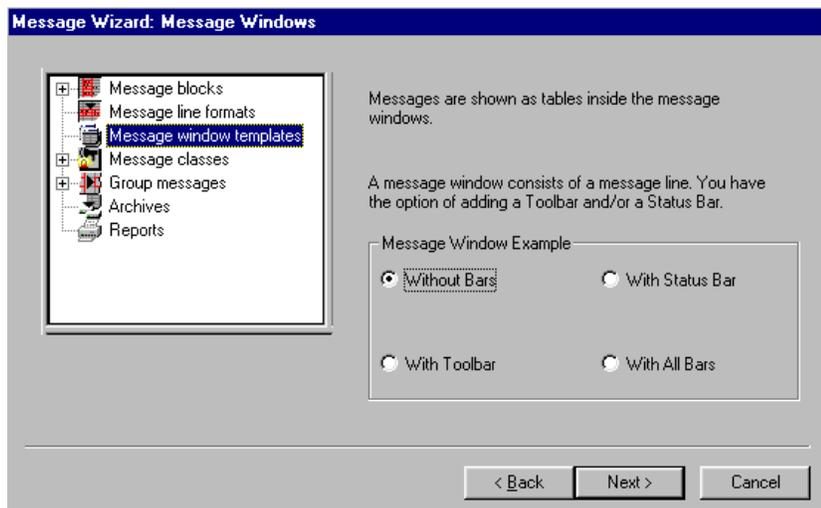

Figure 4.3c WinCC Project "QckStart"; The Message Wizard
4. In the "Message Wizard: Message Windows" screen, select "Without Bars" if it is not already selected. Click "Next". View Figure 4.3c for reference.